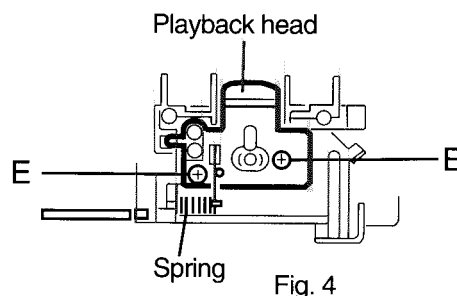

Fig. 4
■ Removing the Playback Head (See Fig. 4)